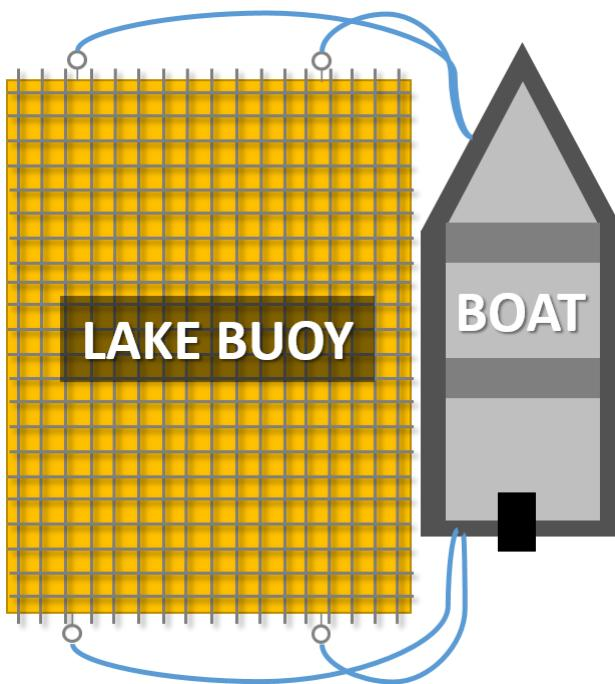

Figure 37. Recommended Towing Technique
- a. Figure 37 provides an example for towing the AIS Buoy to maintain the most control over it on the water. Other methods have proven tedious due to the weight of the buoy compared to our boats. **Do NOT tow the buoy by the buoy deck cleats** (Figure 36 shows a deck cleat).